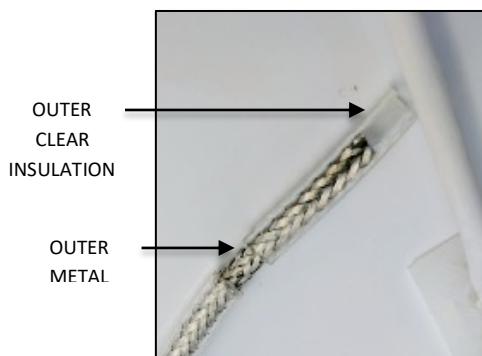
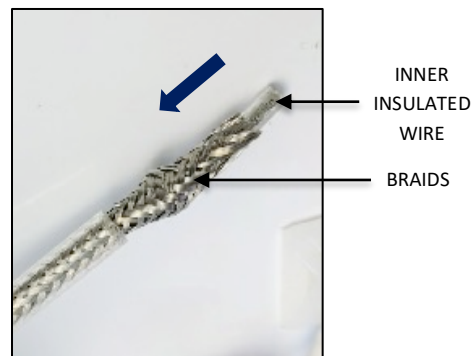

FIG. 39
FIG. 40
- Strip off 1.00" of outer clear insulation exposing the outer metal braiding as shown in FIG. 39 below. **Be careful not to cut or damage the outer metal braiding.** Gently push braiding down to loosen the individual braids exposing the inner insulated wire as shown in FIG. 40 below.